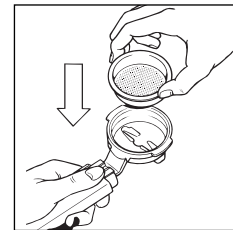
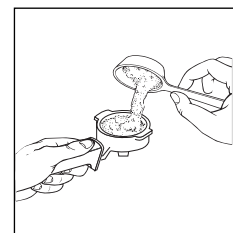

fig. 9
fig. 10
1. After carrying out the preheating of the machine as described in the preceding section, in order to make just one cup of espresso coffee, insert the 1-cup filter (the smaller of the two provided) into the filter holder (Fig. 9) and fill it with one level measuring spoon of ground coffee (fig. 10) – about 7 grams. If you wish to prepare two cups of espresso coffee, use the 2-cup filter (the larger of the two provided) and fill it with two less-than-level measuring spoons of ground coffee (about 6+6 grams).